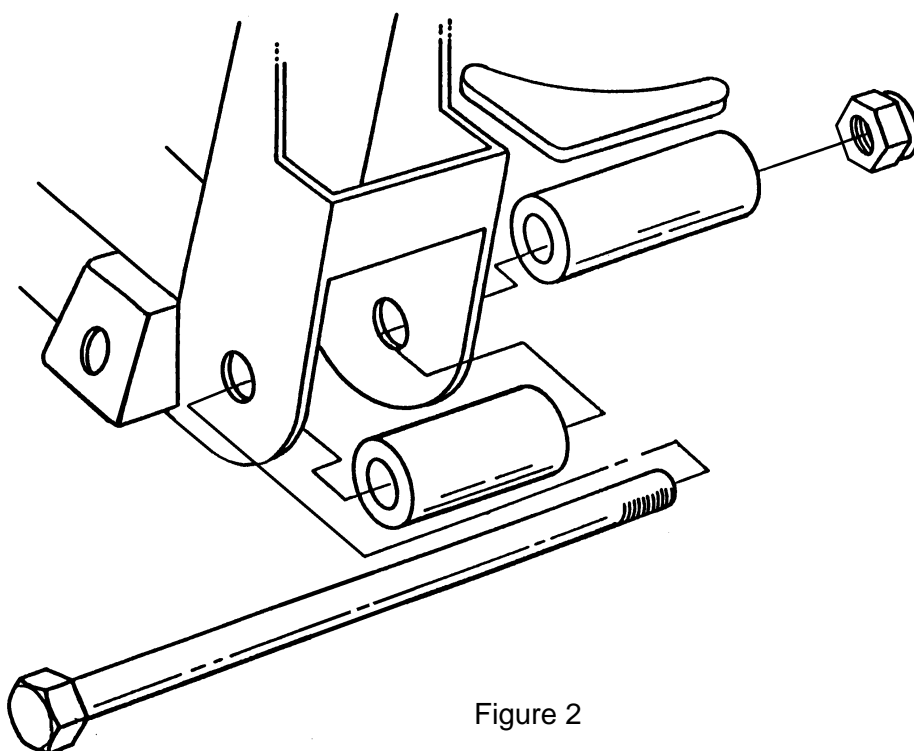

Figure 2
5. If you purchased a complete I.F.S. Package from *HEIDTS*, it was supplied with Full Lower A-Arms. Begin by installing the Spacers onto the crossmember. The holes where the lower control arms attach to the Crossmember must be enlarged to 5/8". Mount the Crossmember Spacers and the Rear Spacers which were supplied with the Lower Control Arms onto the Crossmember as shown in Figure 2 using the supplied Inner Bushing Bolts, Nuts and a temporary spacer under the Nuts. DO NOT use the A-Arms for this operation as the welding heat will melt the rubber bushings. Tighten the Bolts and Nuts tight. Weld the Rear Spacers to the Crossmember all around. Weld the Crossmember Spacers as far as possible inside the crossmember on both ends. Position the Gussets horizontally, not vertically, against the Rear Spacers and the back of the Crossmember. Weld Gussets to Spacers and Crossmember. When it cools, remove the bolt.